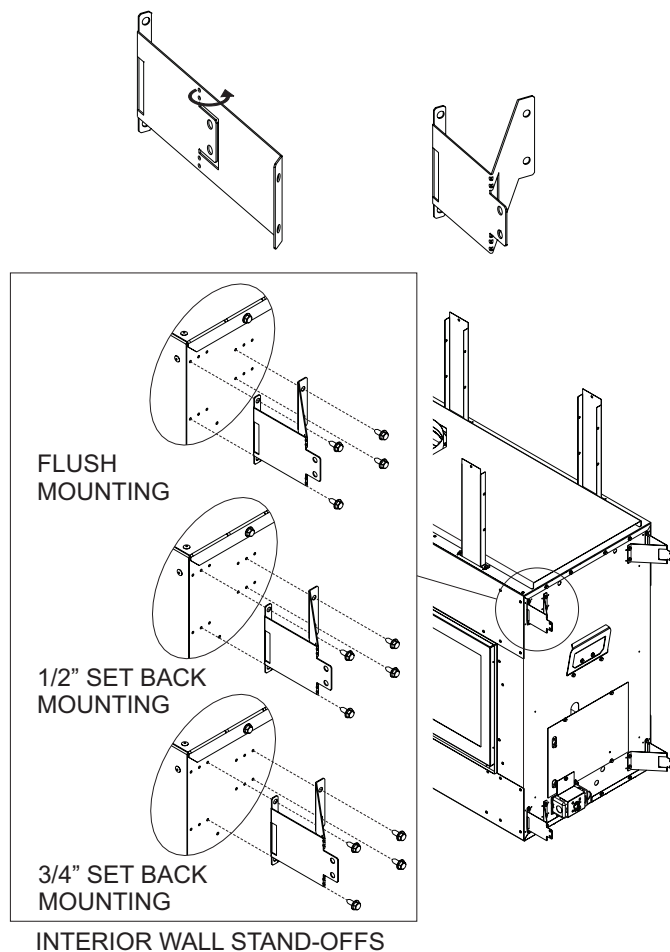

Figure 22
3. Secure the four framing brackets and hand bend them into a V shape as shown in **Figure 22**. Secure with #10 x 1/2 inch hex-head screws.
4. Locate the nailing flanges on the sides of the fireplace (two each side). **See Figure 22**.